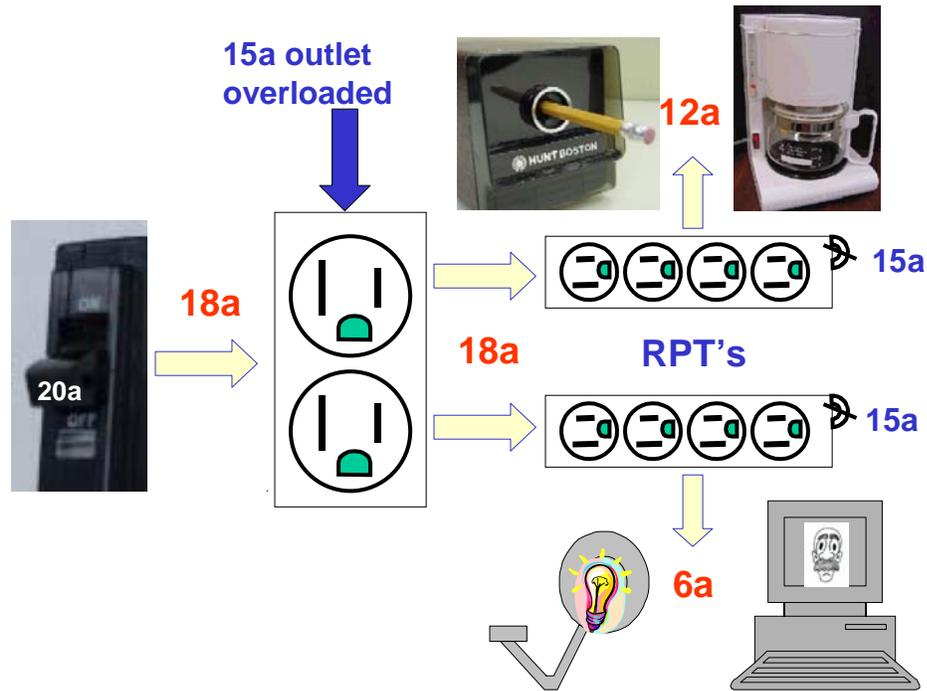

Figure 1
OSHA 1910.304 (b)(4) & NEC® 210.21 Outlet devices shall have an ampere rating not less than the load to be served. Also NEC® 210.21(B)(2) and NFPA 70E 410.5(B)(2) (Part I chapter 2-2.5(b)(2), 2000 Edition) generally limits the maximum cord-and-plug-connected load to branch circuit receptacles to 12 amperes or 1440 watts for a 15-ampere receptacle. This is easily exceeded with the use of heavy appliances but not with the lighter loads, such as computer peripherals and other equipment listed for intended use in the UL white book for RPT's. Figure 1 illustrates the overloading of a 15 amp receptacle outlet on a 20 amp branch circuit where RPT's are used to allow excessive loads to be connected to the outlet and circuit. It should be noted that it is not